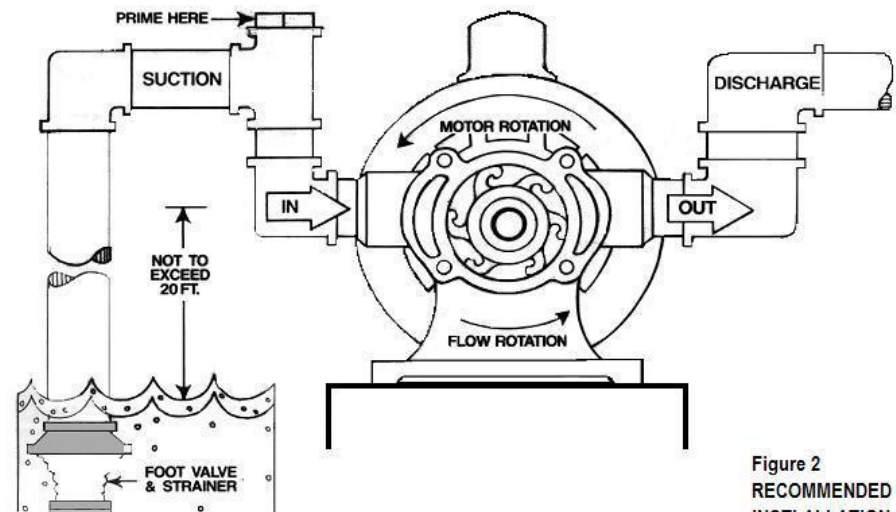

Figure 2
From the factory, the pump is set up for counter clockwise rotation (from opposite shaft end) as shown in Figure 2. To reverse the direction of the pump, first remove one end plate and impeller. Reinsert the impeller into the housing making sure the blades of the impeller are oriented in the opposite direction. Replace end plate, making sure the gasket is properly aligned. **NOTE:** Make sure your motor is rotating the same direction as the pump.
- Use a "T" fitting (figure 2) on the suction line will make filling the hose/pipe easier.